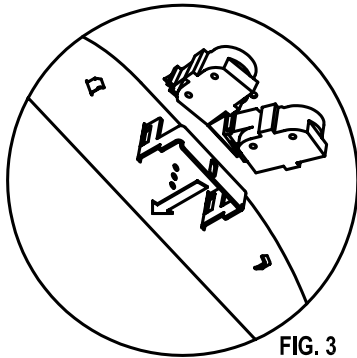
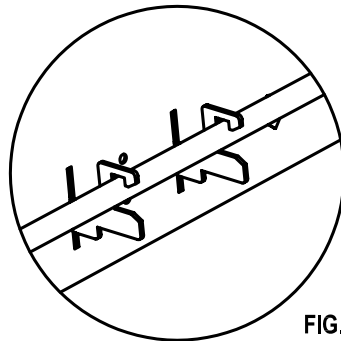

FIG. 3
FIG. 4
3. LIFT LUMINAIRE INTO OPENING UNTIL FLUSH WITH CEILING TILE. INSERT SUPPORT FORK THROUGH SLOTS (FIG. 3) IN HOUSING (SOCKETS ARE DISENGAGED PRIOR TO SHIPMENT AND INSTALLATION), ENGAGE FORK OVER HANGER (FIG. 4), AND SECURE WITH SUPPLIED #8 SCREW. REPEAT PROCEDURE FOR THE OTHER SIDE.